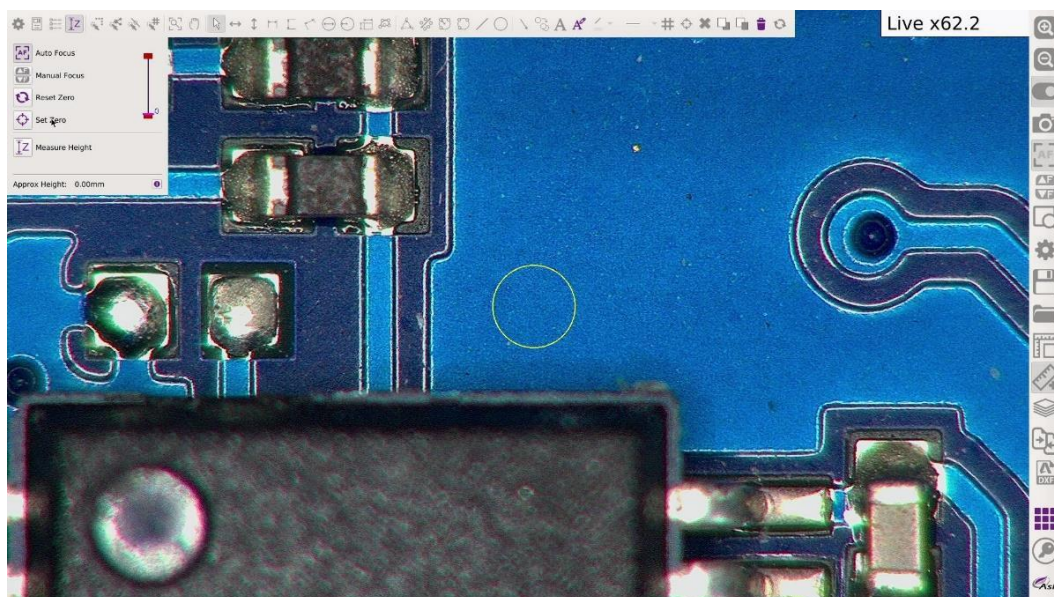

Fig. 27
3. The program will automatically zoom to the max. optical zoom and will Auto Focus to the target surface plane. Ensure the target surface is positioned under the spot focus circle (Fig. 27).